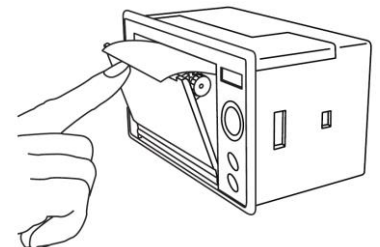

Fig.29-8
3. As Figure 29-8, close the front cover.